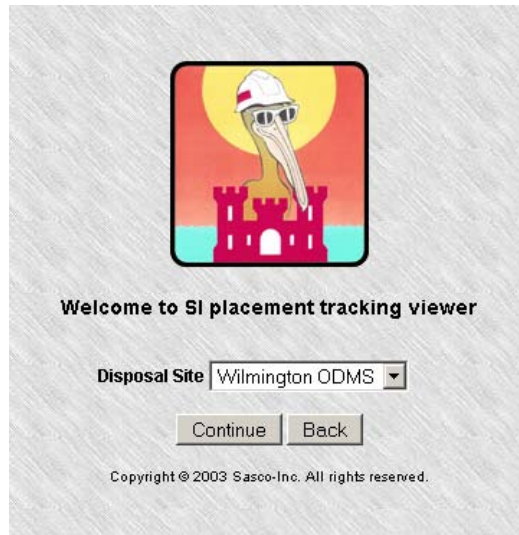

Figure 4.2 Disposal Site Menu
2. Enter **ssi** for both the public username and password. Select the corps district from the pull-down menu. Enter the date in the **start date** dialog box in the format **mm/dd/yyyy** and select the number of days back from that starting date. For example, entering 10/25/2003 as the start date and 3 for the value in days back will bring up placement tracking data for 10/23/2003, 10/24/2003, and 10/25/2003. Click **continue**. A menu that lists the disposal sites for the corresponding information will appear as shown in Figure 4.2.